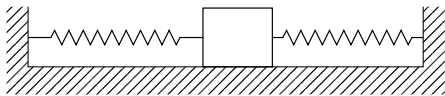

Figure 17.5
5. A mass of 3 kg rests on a smooth horizontal surface, as shown in Figure 17.5. If the stiffness of each spring is 1 kN/m, determine the frequency of vibration of the mass. It may be assumed that initially, the springs are un-stretched. [4.11 Hz]